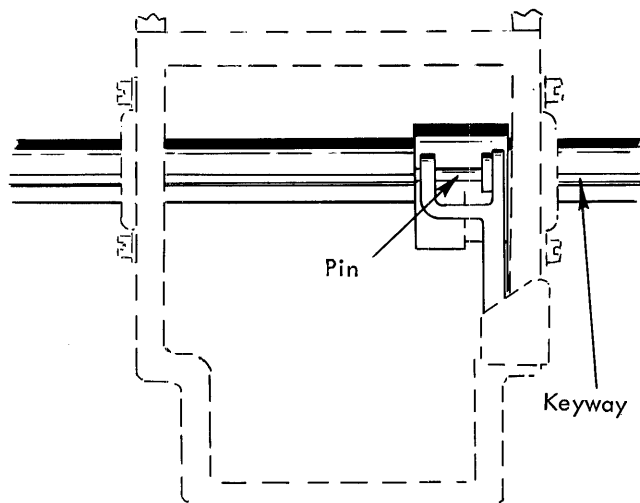

FIGURE 142.3 Keyway In Line With Roller
- a. With the machine resting on its back, slowly hand cycle a high velocity character until the leading edge of the print shaft keyway lines up with the center of the roller pin on the cam follower (Fig. 142.3).